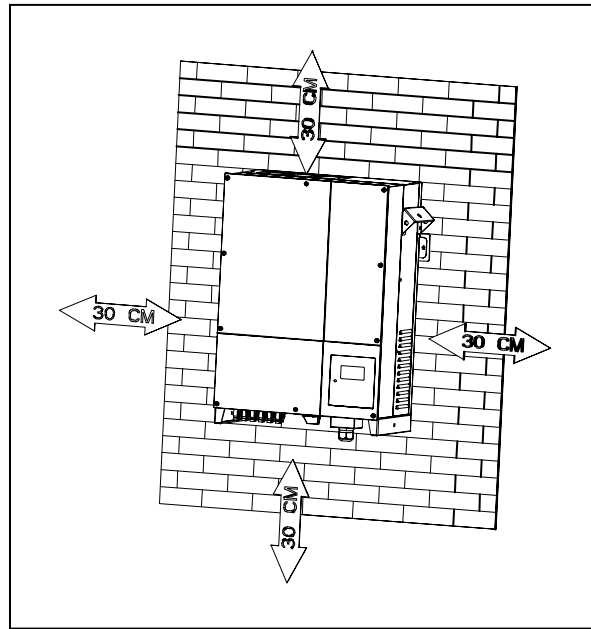

Fig3.2
- 2) The location selected must be suitable for inverters' dimension. (Refer to Fig 3.2 Required Clearances)
11) Notice the minimum clearances of the inverter. (Refer to Fig 3.2 Required Clearances).